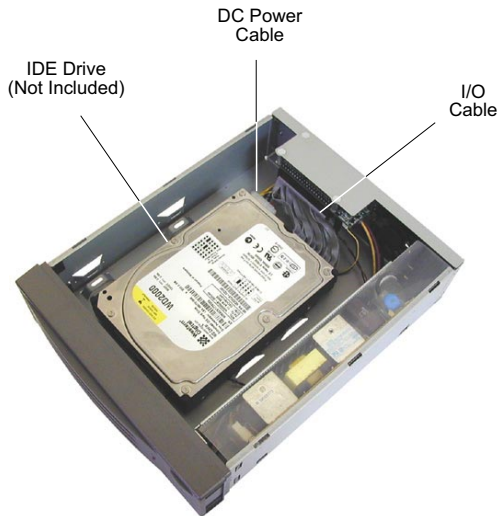

Figure 6: Installing the Drive
2. Connect the I/O cable to the drive (Figure 6).
3. Connect the DC power cable to the drive (Figure 6).